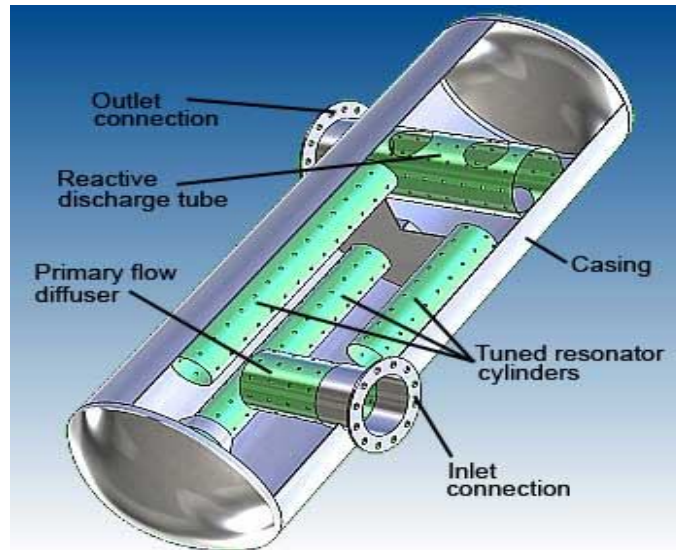

Fig.4 Reactive Muffler
- a) *Insertion Loss[IL]:* Insertion loss is the difference between two sound pressure levels measured at the same points in the space before and after a muffler as shown in fig .4 . Insertion loss depends on source and terminating impedance. Mathematically insertion loss can be expressed as